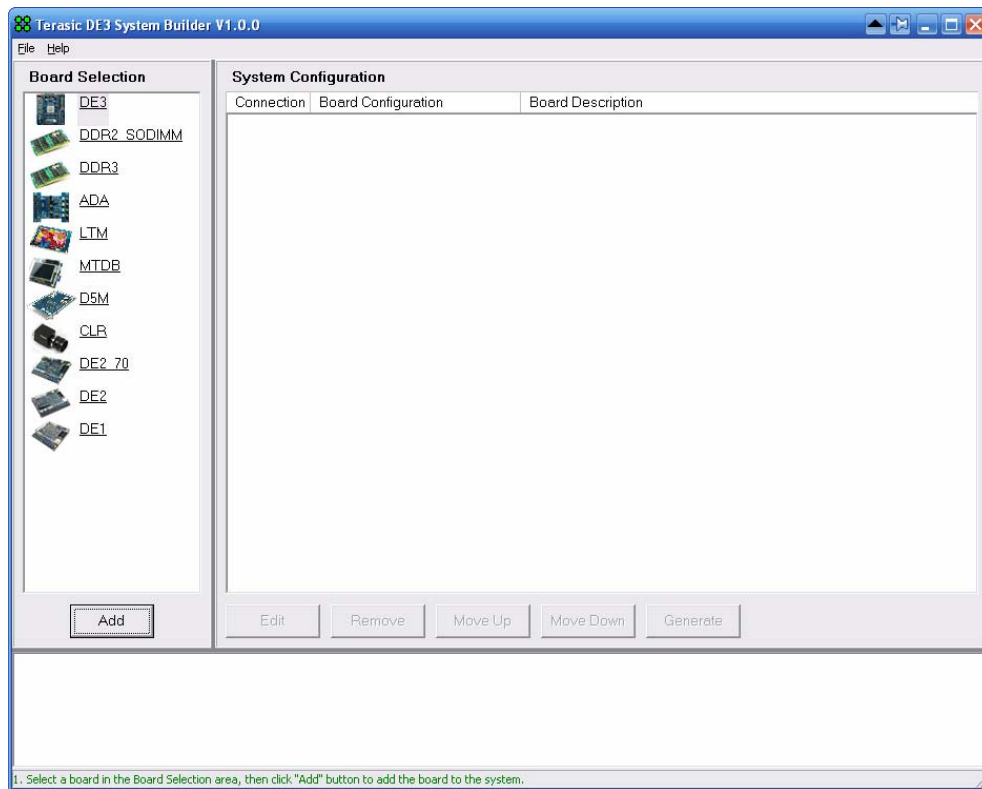

Figure 4.2. The DE3 System Builder window
- Execute **DE3_System_Builder.exe** on the host computer. The DE3 System Builder user-interface will appear, as shown in Figure 4.2.